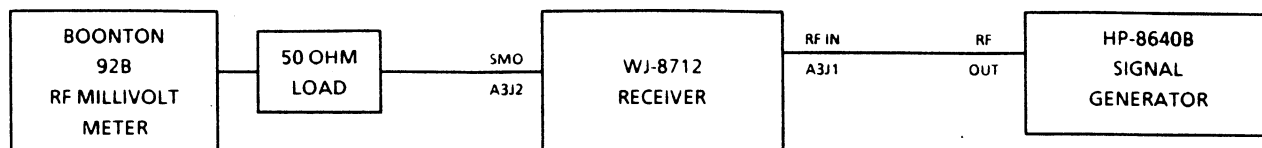

Figure 7-8. RF/IF Signal Path Performance Test Equipment Connection
1. Connect the WJ-8712 Receiver and test equipment as illustrated in Figure 7-8.